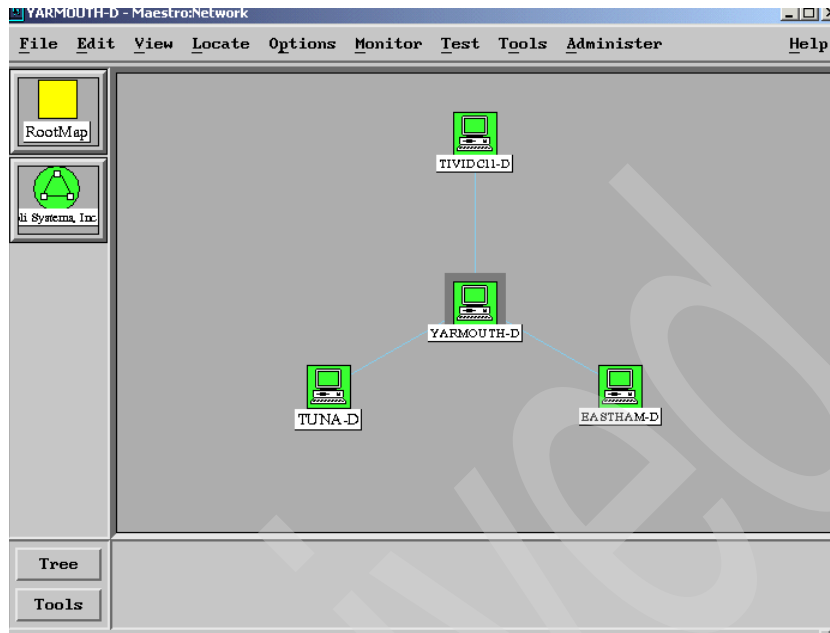

Figure 13-9 TWS map showing all workstations
3. Open the TWS network icon to show all workstations and links in the network, as shown in Figure 13-9 on page 633.
Figure 13-9 is equivalent to the diagram of our TWS network (Figure 13-1 on page 619). There are three TWS nodes, with yarmouth being the master node. If there were more nodes, these nodes would be arranged in a star pattern around the master node.